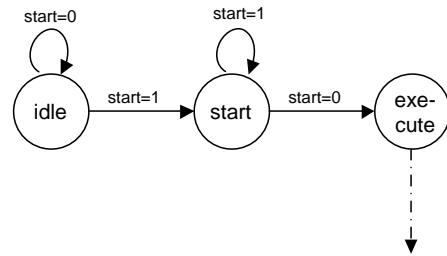

Figure 1 State machine implementation for starting a process
As stated in the document Some comments on starting a process a good way to start a process-based design is to use a start signal that first goes from zero to one (1) when we initialize the run and then we wait for the signal to go low (0) before we move on in the flow, *Figure 1*.